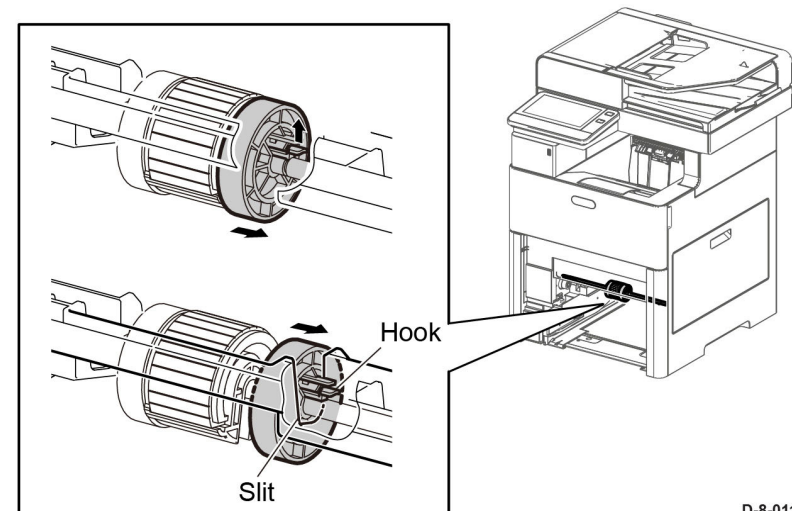

Figure 1 Release the bypass tray feed roller hook
2. Release the hook on the bypass core roll, Figure 1.